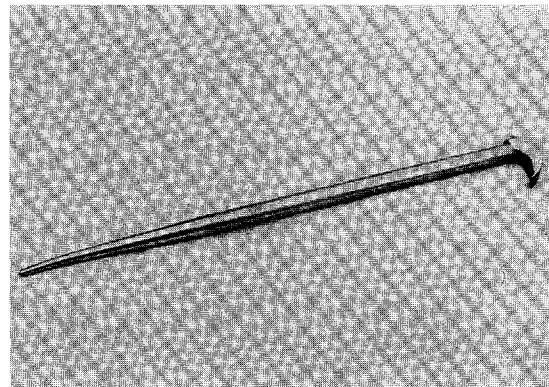
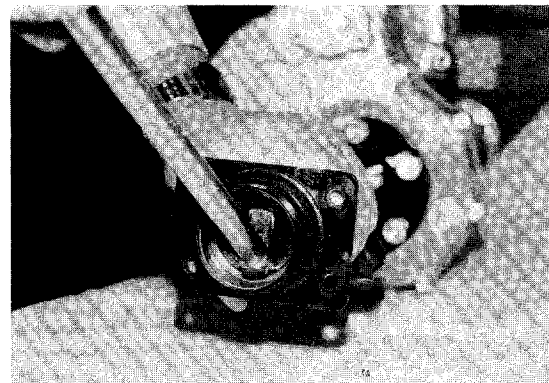

Figure 11-3
Figure 11-4
5. Remove oil seal using 16" rolling wedge bar (Figure 11-3) by inserting underneath seal lip and prying seal out (Figure 11-4).